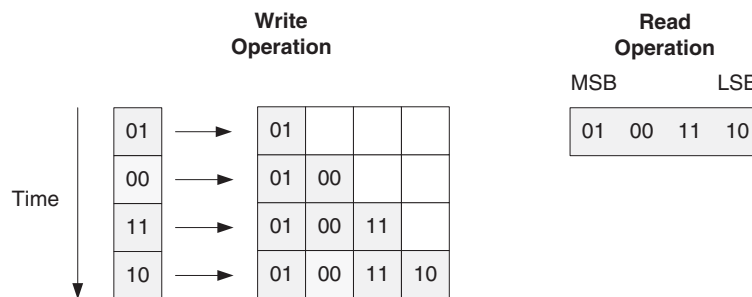
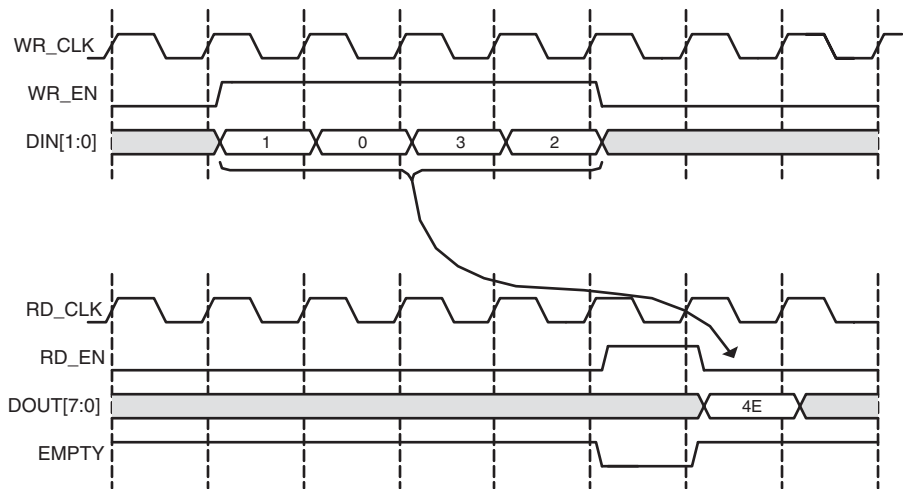

Figure 4-17: 1:4 Aspect Ratio: Data Ordering
Figure 4-18: 1:4 Aspect Ratio: Status Flag Behavior
**Note:** For non-symmetric aspect ratios where the write width is smaller than the read width (1:8, 1:4, 1:2), the most significant bits are read first (refer to Figure 4-17 and Figure 4-18).
Figure 4-17 is an example of a FIFO with a 1:4 aspect ratio (write width = 2, read width = 8). In this figure, four consecutive write operations are performed before a read operation can be performed. The first write operation is 01, followed by 11, 00, and finally 01. The memory is filling up from the right to the left (LSB to MSB). When a read operation is performed, the received data is 01\_00\_11\_10.
Figure 4-18 shows DIN, DOUT and the handshaking signals for a FIFO with a 1:4 aspect ratio. After four words are written into the FIFO, EMPTY is deasserted. Then after a single read operation, EMPTY is asserted again.